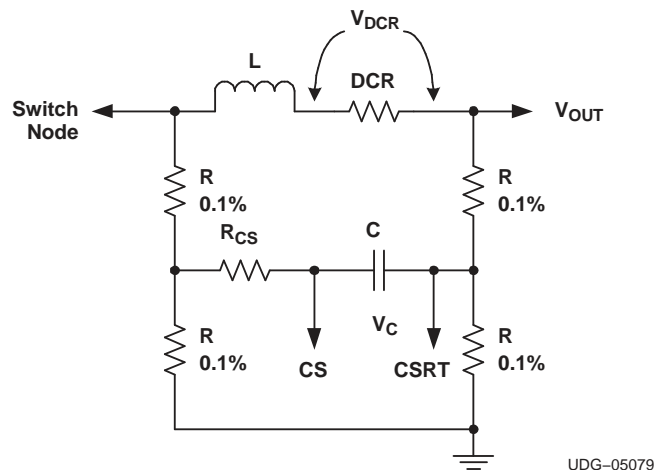

Figure 12. Inductor Current Sense Configuration for 5-V Output
Due to the current sense operational amplifier input common mode voltage range, it is necessary to divide the current sense information before connecting to the TPS40130 current sense pins (CS1, CSRT1, CS2 and CSRT2). Figure 12 shows how this is achieved.  $R_{CS}$  and C are selected as normal using the method described in Equation 24 and Equation 25. The divider resistors (R) are chosen to be much smaller than  $R_{CS}$ . They are typically 100 times smaller. However, if these resistors are too small, they may dissipate too much power. In that case, choose a smaller capacitance value, and select a new  $R_{CS}$ . The resistors used in the divider should be precision resistors each having the same value.